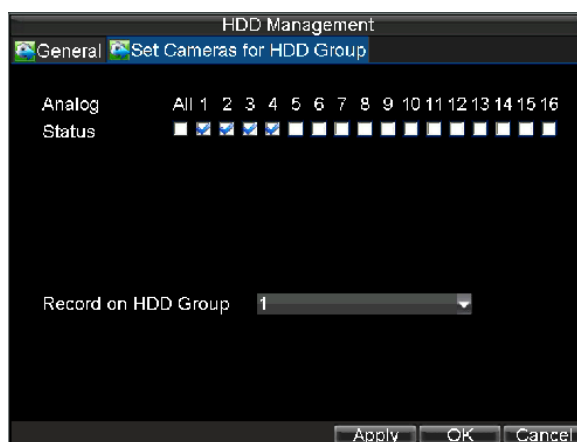

Figure 6. Set Cameras for HDD Group
3. Select the HDD group you want the channels to be recorded on, as shown in Figure 6.